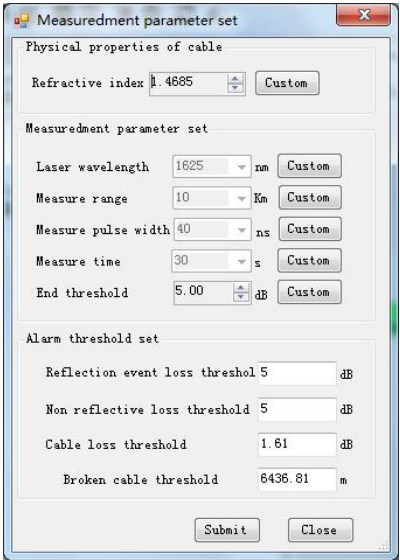

Fig.4.3 Measurement Parameter Set
- D: Parameter Set: Click the “measurement parameter set” button, and the interface of parameter setting will pop up(see fig 4.3).